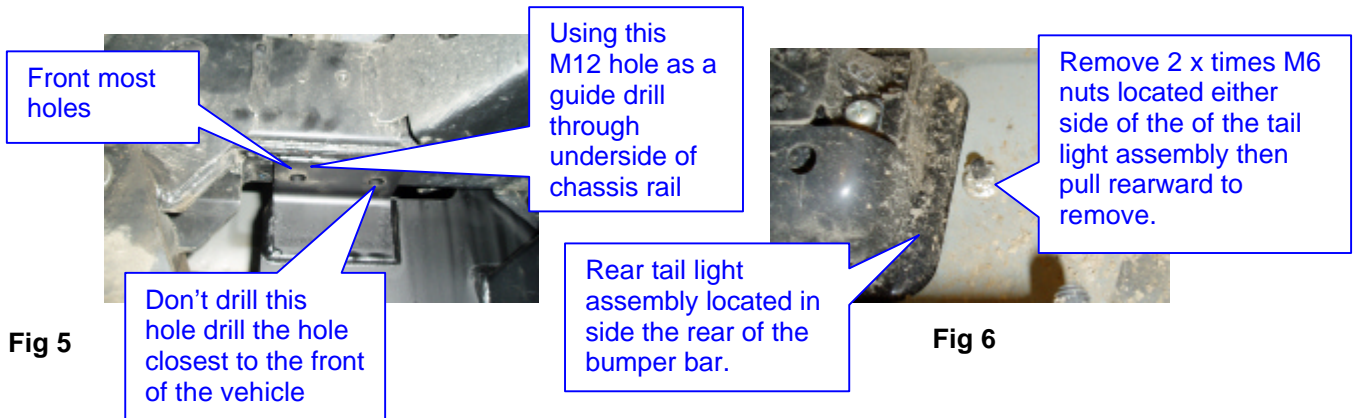

Fig 4
- a. Fit loose angle irons with 2 x M10 x 1.25 pitch bolts to underside of rear horizontal chassis member see fig 4 fasten loosely.
- b. Offer tow bar to vehicle so that holes in the side arms align with captive nuts on the side of the chassis rails that retaining bolts where fitted to see fig 4.